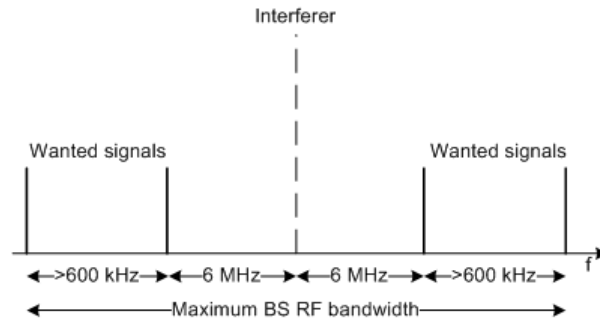

Figure 3-2: Frequency allocation of the wanted and the interfering signals
The frequency distribution is illustrated on Figure 3-2.
- The wanted signals are arranged symmetrically around the center frequency, see Figure 3-2